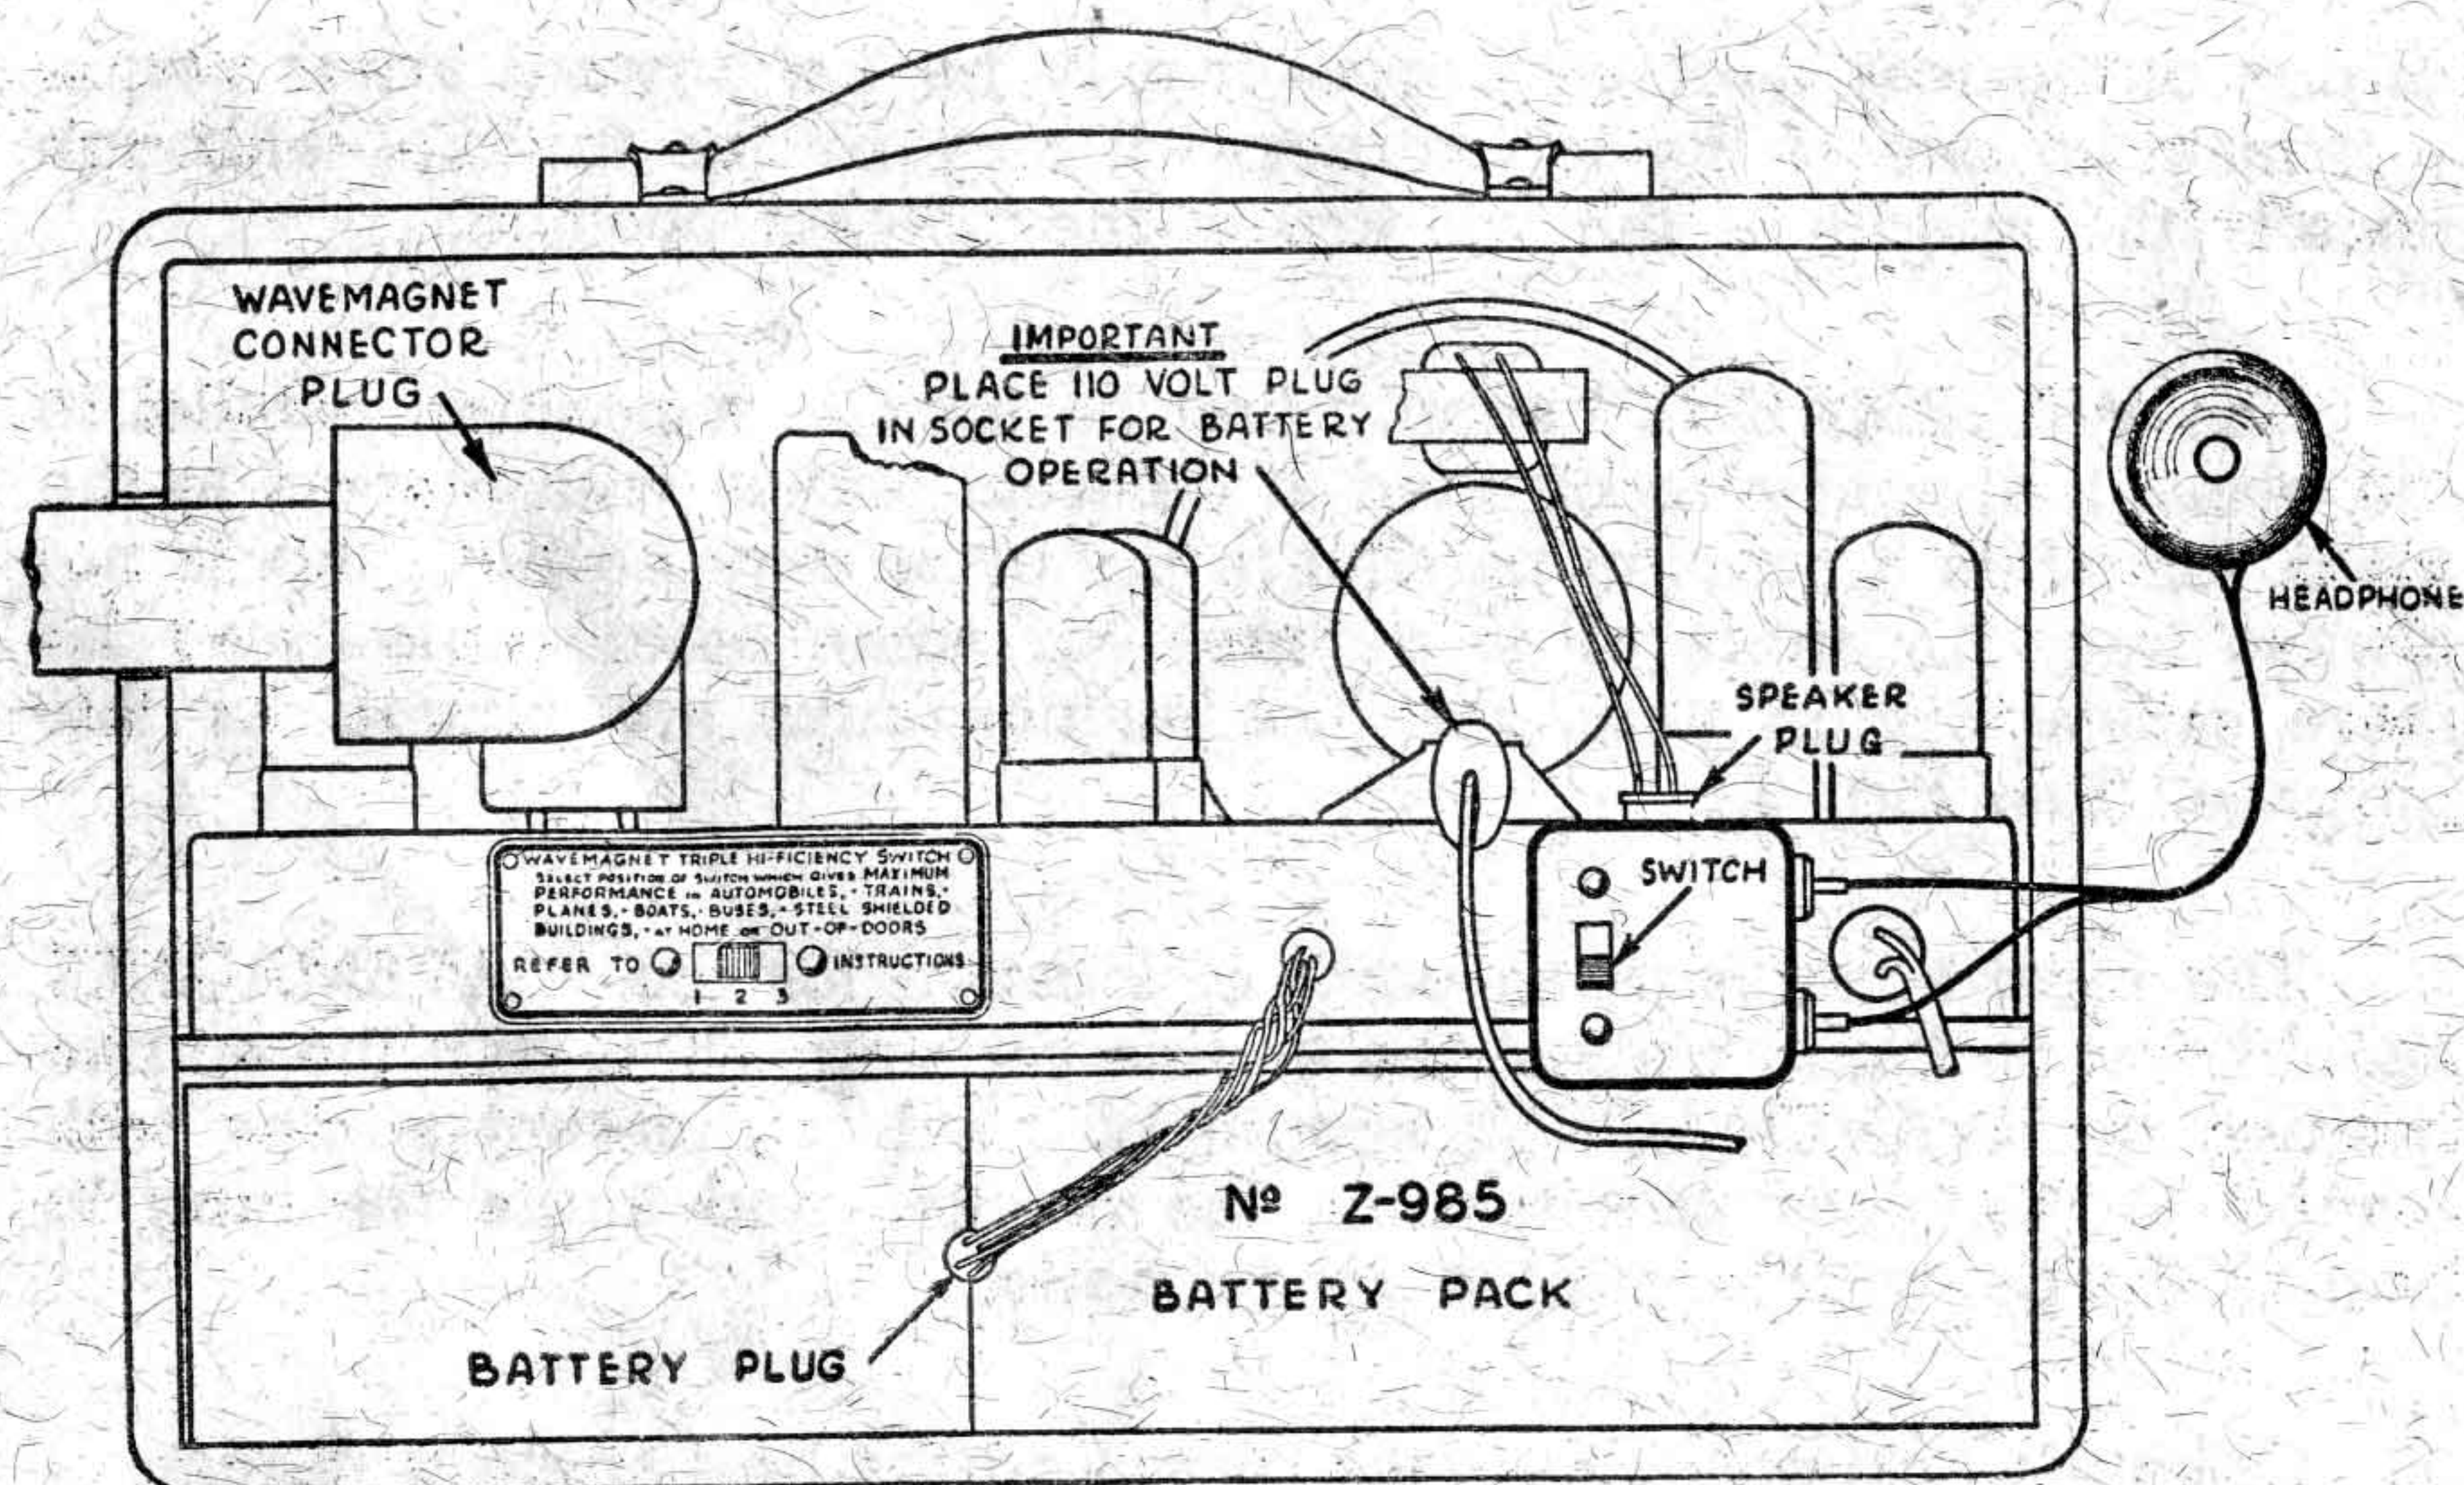

Fig. 4
To prepare this receiver for battery operation, it is necessary to first install the single unit Z-985 Zenith dry battery pack. The back cover is unlatched and opened, and after removing the wooden block, the battery pack is placed in the compartment at the lower part of the cabinet with the power socket facing the back of the cabinet. Next insert the battery plug into the battery pack socket (see Fig. 4) and replace wooden block.
**Important.** The 110 volt plug must be placed in the socket provided (see Fig. 4) in order for the receiver to operate on dry battery power. This automatically operates a safety switch.
served regardless of the position or location in which it is used, by means of a control known as the Triple Hi-Efficiency switch on the rear of the chassis (see Fig. 4).
To attach the adaptor, first remove the speaker plug from the socket on the rear of the chassis, and plug it into the adaptor unit. The adaptor is then plugged into the speaker socket, and the headphone terminals inserted into the two connectors on the adaptor. It is then ready for use. (See Fig. 4.) The switch on the adaptor operates either the loudspeaker or the headphones as desired.